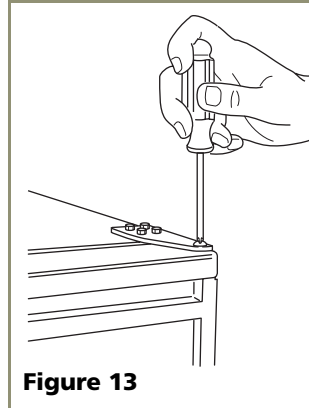

Figure 13
1. Remove top hinge screw pin (7/64" Allen wrench, see **Figure 13**). Remove door by tilting forward and lifting off bottom hinge pin.